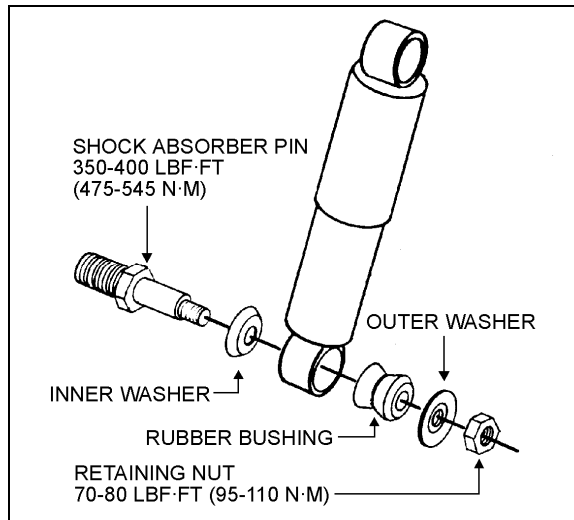

FIGURE 4: SHOCK ABSORBER 16008
1. Remove nuts and washers from shock absorbers on upper and lower mounting pins, taking care to identify the inner and outer washers to ease reinstallation. Refer to figure 4 for details.